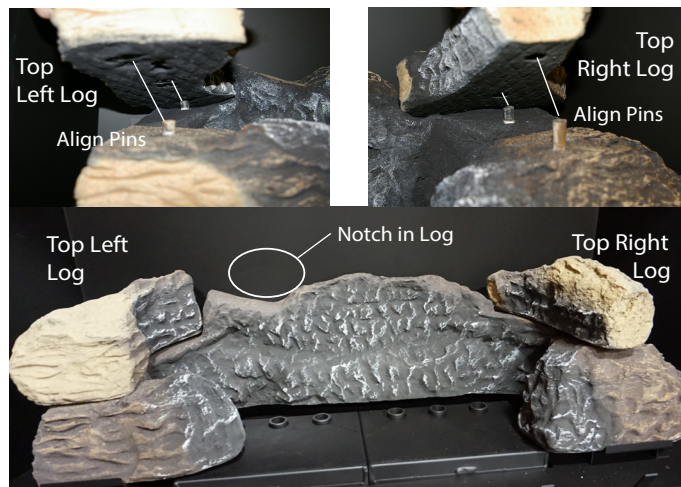

Figure 27b. Top Left / Right Log.
Step 4. Carefully place the Top Right log as shown in figure 27b. using the (4) four alignment pins protruding from the top of the Right and Left Bottom Logs, as shown in figure 27b. With these pins align the Top Right and Left logs using the predetermined alignment holes cast into the underside of the logs.
Step 5. Place the Centre Front log, Figure 27c below, as shown using the notch cast in the Bottom Rear log as shown in figure 27b